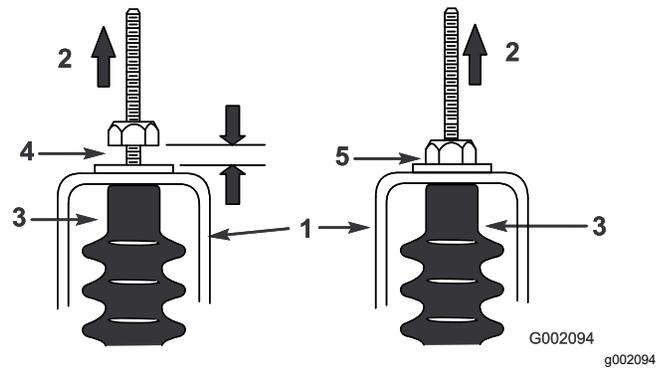

Figure 63
5. Pull up on each shift cable and ensure that there is a 0.76 to 1.52 mm (0.03 to 0.06 inch) between the nut/washer and the neutral bracket (Figure 63).